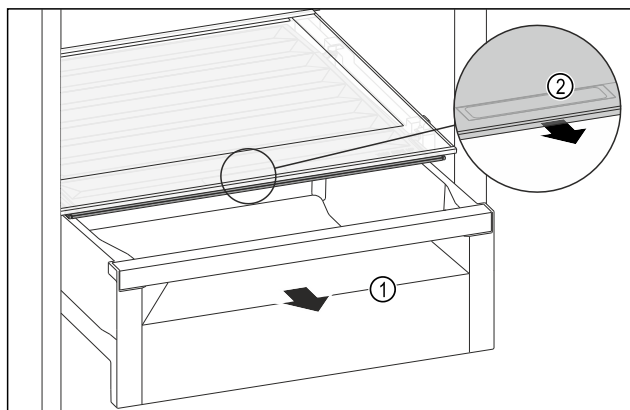

Fig. 98
- Pull out the drawer Fig. 98 (1).
- Grasp the recessed grip Fig. 98 (2) on the compartment lid and pull the compartment lid forwards at the same time.